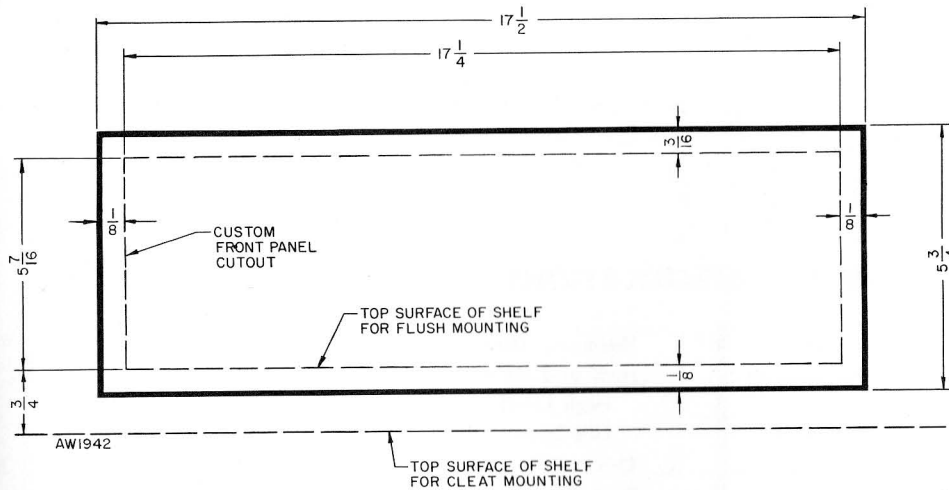

FIGURE 4. Front panel cutout.
- 3—Saw a cutout through the front panel of your cabinet to the dimensions shown in Figure 4. The distance between the top surface of the mounting board and the bottom of the cutout must be the same as the height of the cleats.
3—Saw a rectangular cutout through the front panel of your custom cabinet to the dimensions shown in Figure 4. Note that the bottom of the cutout coincides with the top of the mounting shelf, since cleats are not used in this installation.